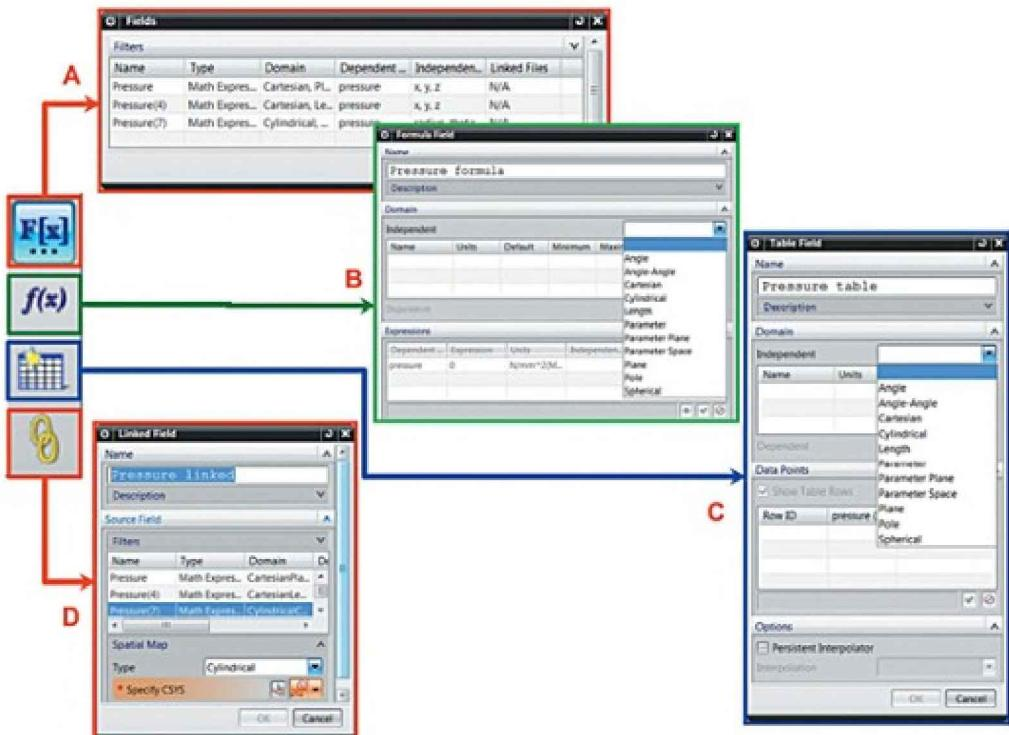

Figure 4.10. Four ways to specify data fields
- Choose *Select Existing Field from List* to specify an existing data field (Figure 4.10, A).
- Select *Formula Constructor* to create a new data field and specify a formula that describes the relation between the dependent variable and independent variables (Figure 4.10, B).
- Select *Table Constructor* to create a new data field by specifying tabular values and selecting an interpolation method (Figure 4.10, C).
- Select *Link Constructor* to specify an existing data field as the reference field with modified spatial distribution method (Figure 4.10, D).